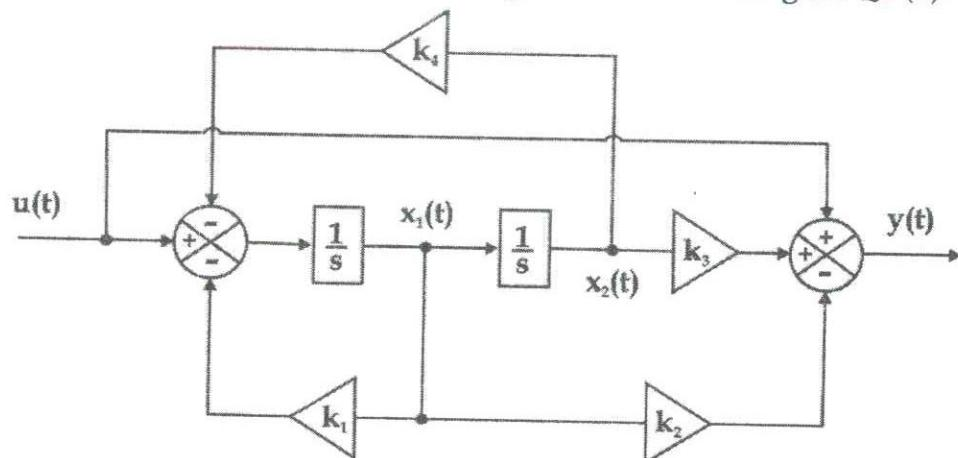

Figure Q2(b).
- b) Consider the plant of which the block diagram is shown in Figure Q2 (b).
- i) If the state vector of the plant can be denoted as  $[x_1 \ x_2 \ \dots \ x_n]$  and the block diagram has 6, 2, 1 and 8 for  $k_1, k_2, k_3$  and  $k_4$  respectively, formulate the state space model of the plant shown in Figure Q2 (b).